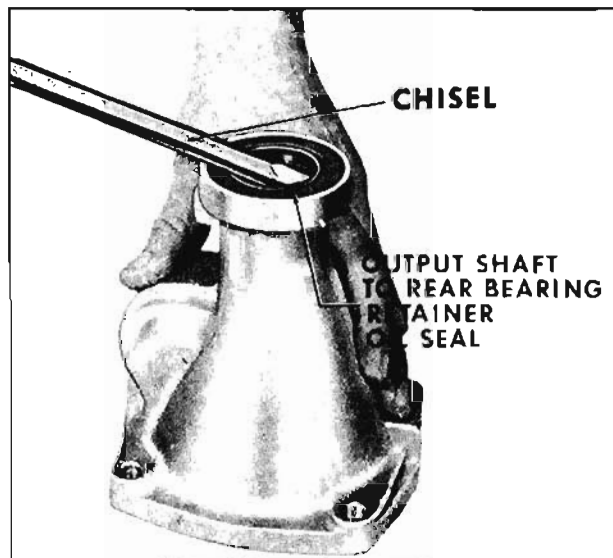

Fig. 6-452A Removing Oil Seal
3. Remove the rear bearing oil seal as shown in Fig. 6-452A.